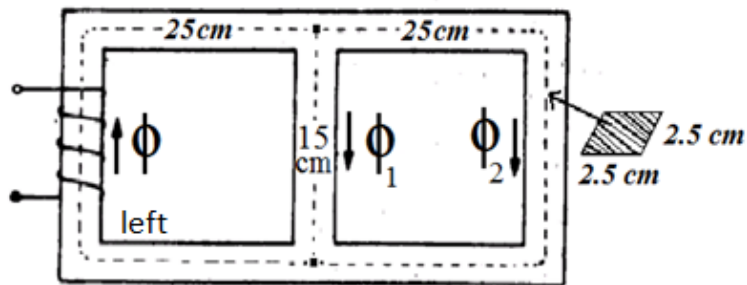

Figure 3
**Problem 3:** The magnetic circuit as shown in Figure 3 is composed of two different materials. The central leg is made up of ordinary iron plate while the rest of the core is made up of cast steel. The total number of turns in the coil is 500, and all legs have the same cross section area. The permeability of cast steel is  $1.11 \times 10^{-3}$  Wb/A.t.m.